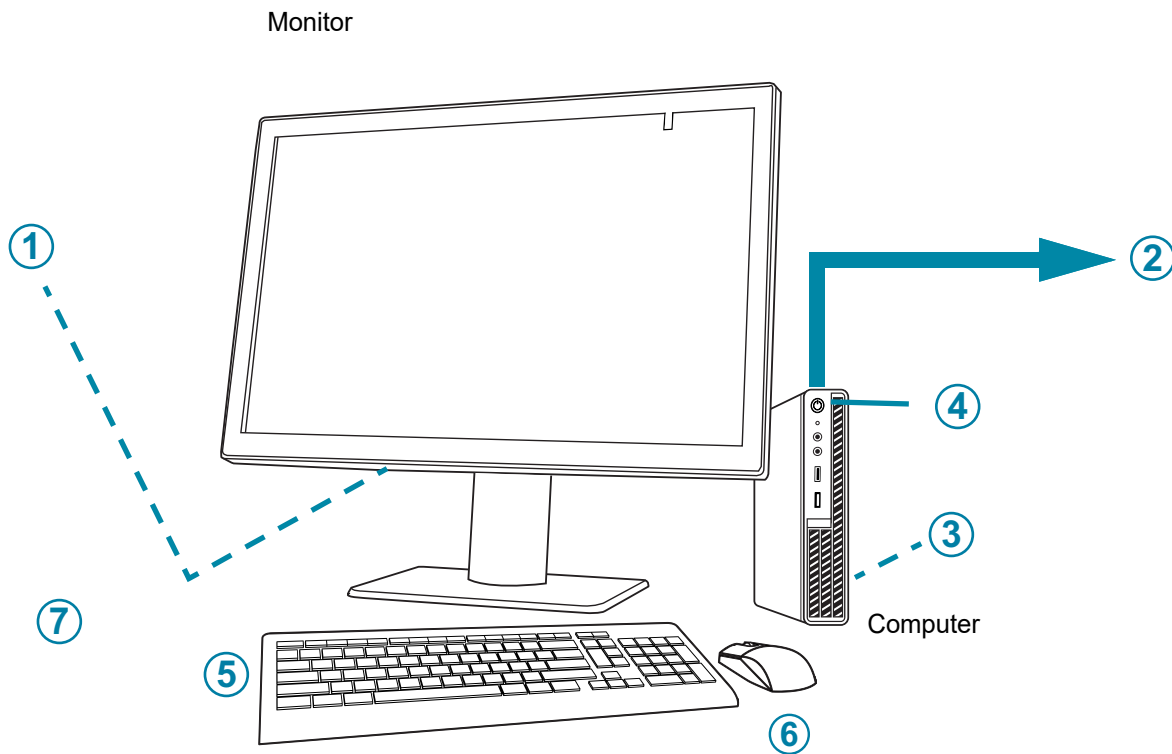

Figure 1-1-2 Review Station components
Key to Figure 1-1-2
①	Monitor power button, under the connector compartment cover
②	Connection to the Image Management Server (depicted in concept in Figure 1-1-2)
③	Computer graphics processor unit (GPU) card, installed in the computer
④	Computer power button, location varies by computer model
⑤	Computer keyboard
⑥	Computer mouse
⑦	Barcode scanner (optional, not shown in Figure 1-1-2)